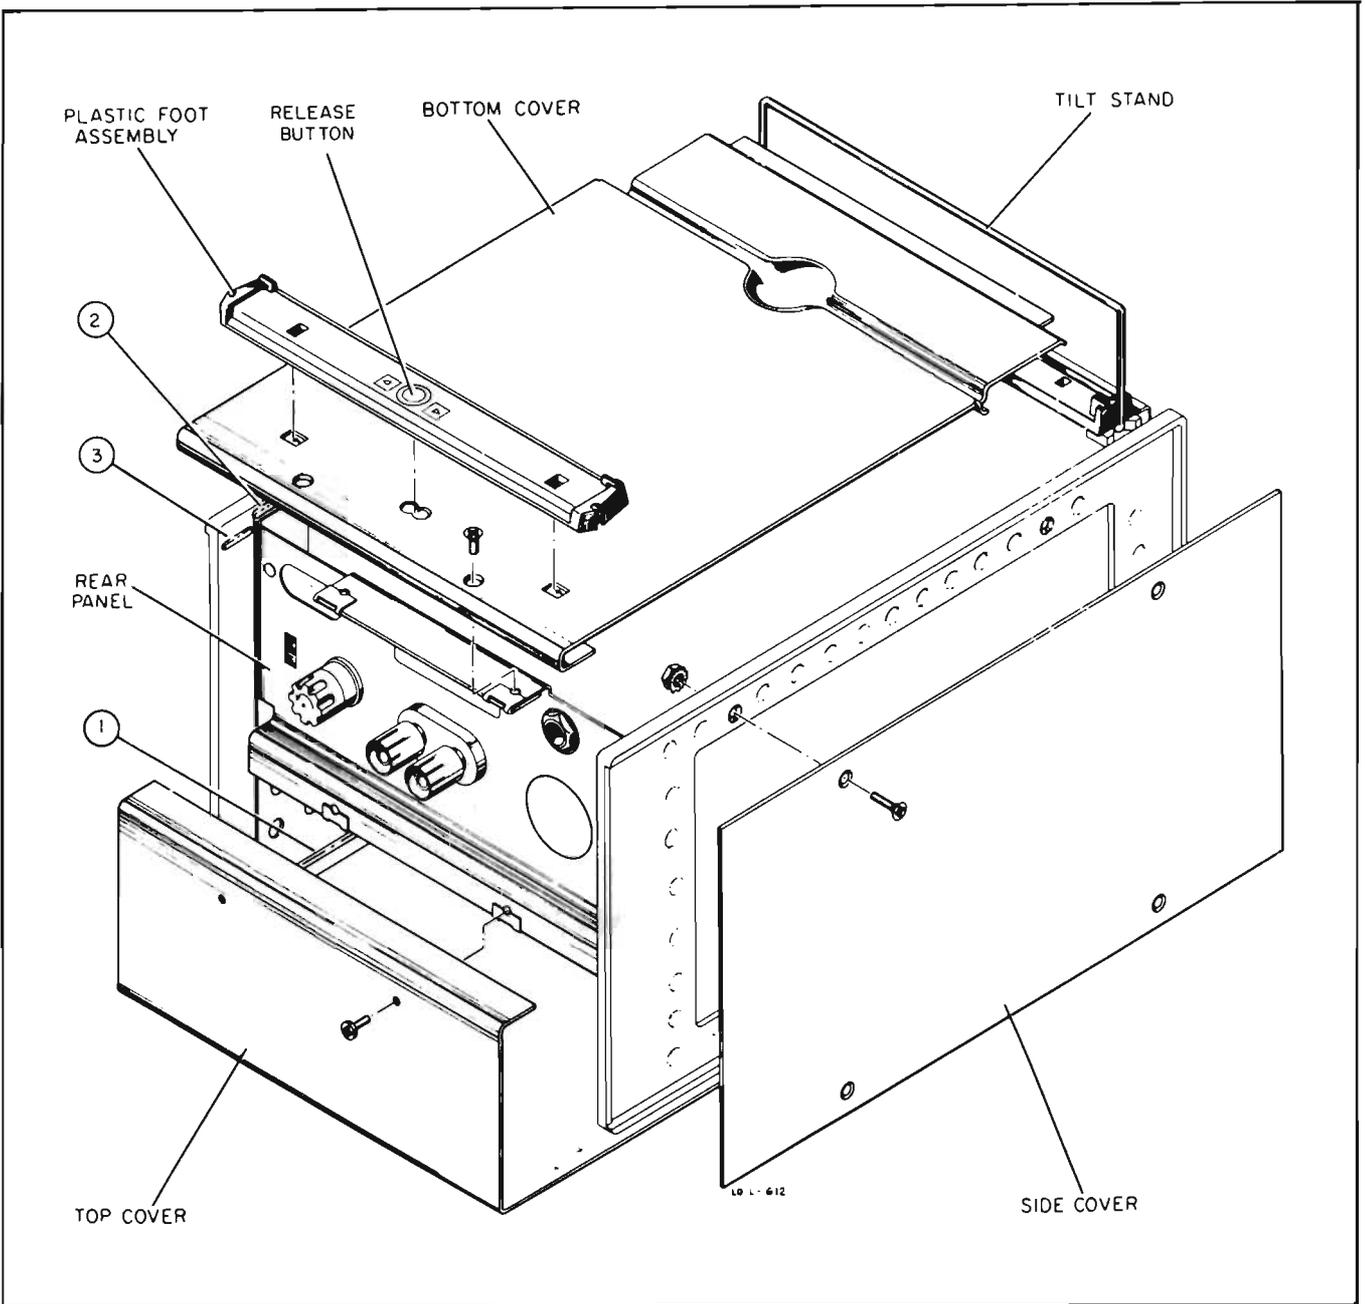

Figure 5-1. Cover Removal
5-5. Refer to figure 5-1 when removing instrument covers. Removal of the top cover exposes the circuit areas shown in figure 5-2. Routine checks and adjustments can be performed without the removal of other covers. However, operations such as soldering on
a. Rest the cover flat on the cast guides projecting inward near the top of each side frame (see $\text{\textcircled{1}}$, figure 5-1).
- a. Set the tilt stand as shown in figure 5-1.
- b. Rest the bottom cover flat on the cast guides projecting inward near the bottom of each side frame (see ②, figure 5-1).
- c. Slide the cover forward on the guides so that the formed portion at the rear of the cover slides over the two short projections at the rear corner of each side frame (see ③, figure 5-1).